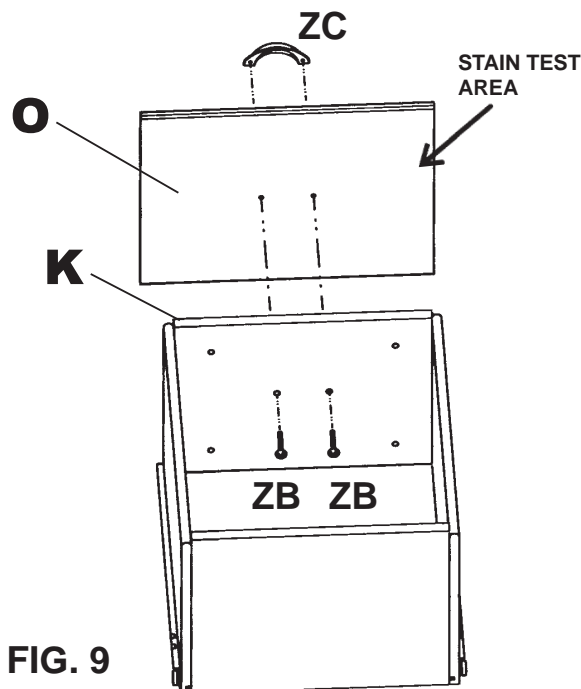

FIG. 9
NOTE: Due to the fact that more than one type of hardwood is used, we recommend testing for desired color. *To test for desired color on:* **a)** Veneer parts—apply stain to unexposed portion of front surface of Drawer False Front. See FIGURE 7. **b)** Alder pieces—apply stain to back of Drawer Face. See FIGURE 9.
- 9) Attach the Drawer Face (O), to the Drawer False Front (K) by inserting two #8x1¼" Machine Screws (ZB) through the center holes in the Drawer False Front and Face and **LOOSELY** fastening into the Cup Pull (ZC). See FIGURE 9.